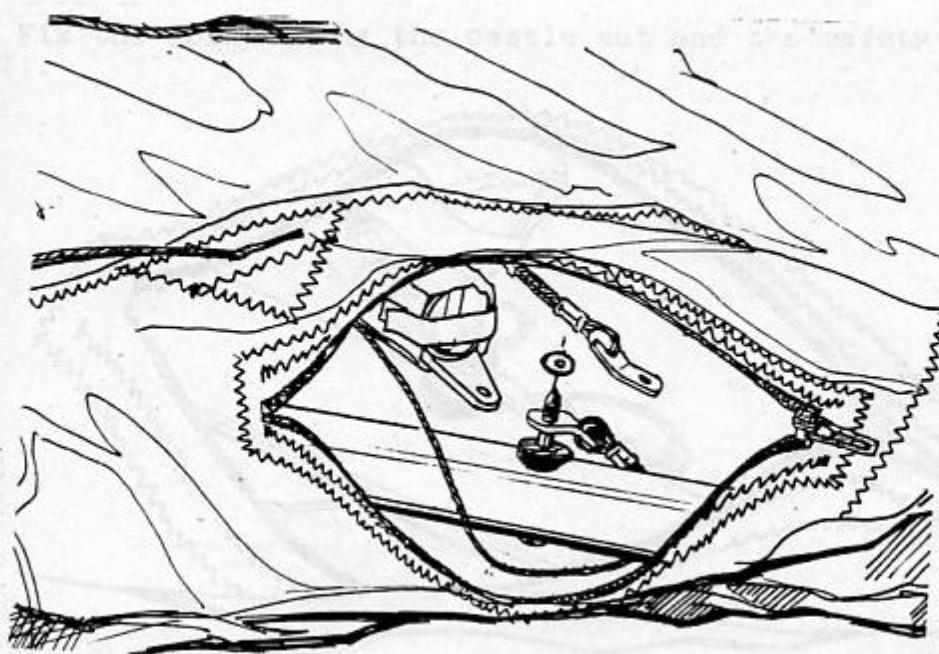

Fig. 3.1.35.
20. Insert the bolt into the N2 leading edge hole of crossbar/leading edge junction from the underside. Install the standoff on the bolt from the top side. The concave part of the standoff must lie on the tube. Fit the lug of the bottom wire over the bolt (Fig. 3.1.35). The wire part of the lug must be turned to the keel section of the glider. The bent part of the lug must point downwards.